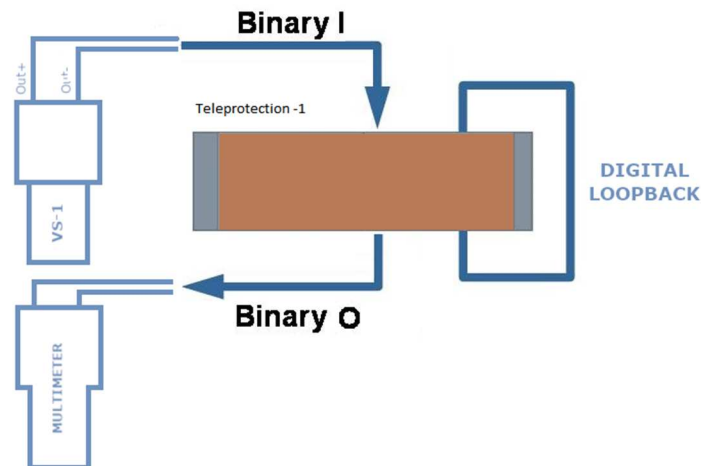

Fig. 6 Wiring test of teleprotection, diagram with voltage source VS-1 and multimeter
- Fig. 6 Wiring test of teleprotection diagram with voltage source VS-1 and multimeter 13
This method allow you to test wiring and configuration of inputs and relay outputs of Teleprotection device (Fig 6). To make this test you need additional multimeter in short detection mode and digital loopback.